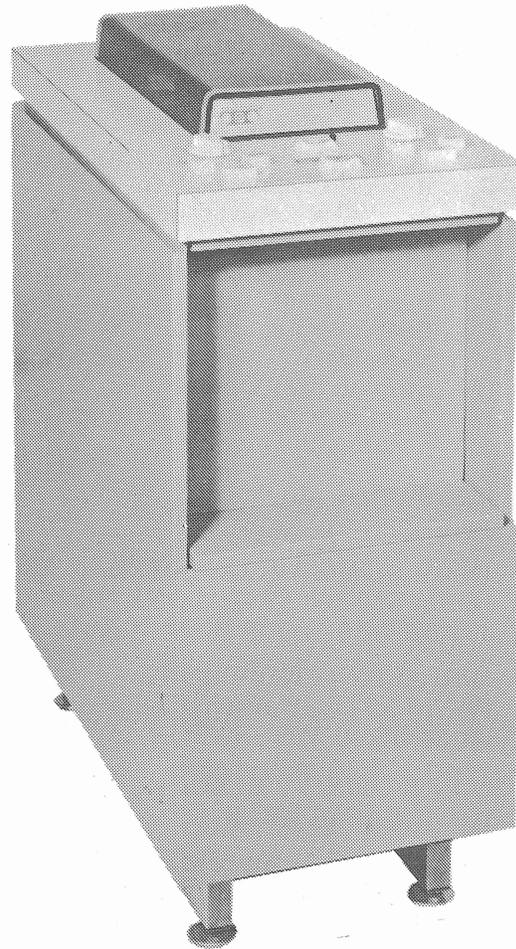

Figure 1 - Magnetic Tape Set Used for Stand-Alone Operation or Adjunct to 33, 35, 37, or 40 Teletypewriters
1.02 Two basic versions of the magnetic tape set are available. They differ in cabinet styling, control panel arrangement, and electronic circuitry. Figure 1 shows the tape set designed for stand-alone operation, or for use as an adjunct to 33, 35, 37, or 40 teletypewriters. The cabinet is styled to match the 33, 35, 37, or 40 cabinetry, and the control panel includes all controls required for use with the related teletypewriter or for on-line operation. The electronic circuitry and cabling interfaces the tape set with 33, 35, 37, or 40 teletypewriters, or permits stand-alone operation. Space is included for a data set where high speed on-line operation is desired.